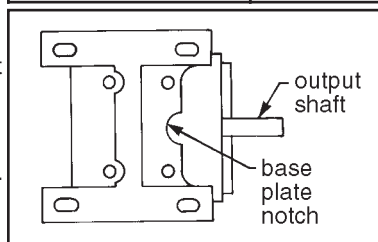

Figure 2
- Position base plate against flat surface of Super-Mod housing with the notched side toward the output shaft as shown in Figure 2.